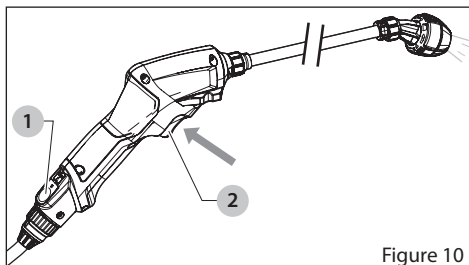

Figure 10
1. Push the power switch (1) to turn ON. The light above the power switch turns on. See Figure 10.
2. Aim the power wand tool in the desired direction of spraying and squeeze the trigger (2).
3. To turn off the power wand tool, push the power switch (1) to the OFF position. The light above the power switch turns off.